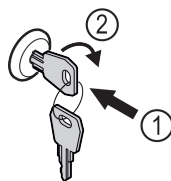

Fig. 190
- Insert the key. Fig. 190 (1)
- Turn the key clockwise by 90°. Fig. 190 (2)